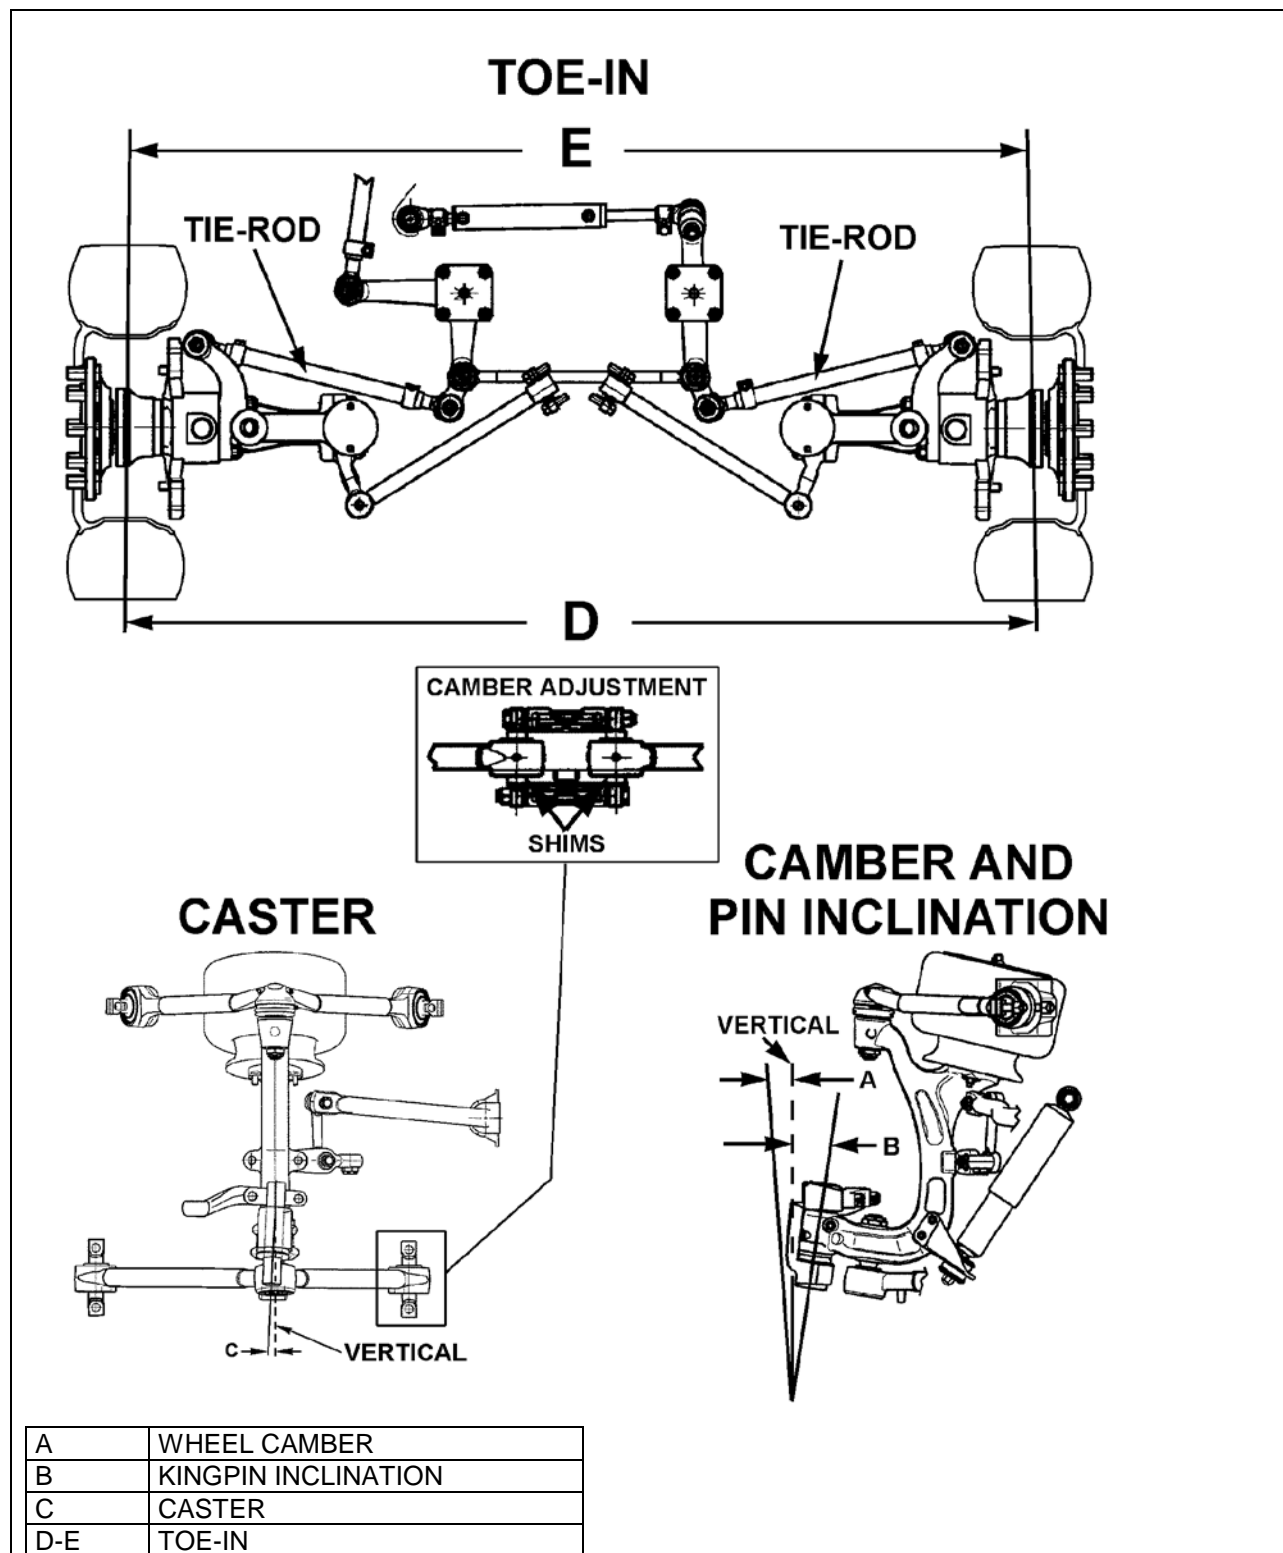

FIGURE 26: FRONT END ALIGNMENT DIAGRAM
**Wheel Camber:** Camber is the number of degrees the top of the wheel is tilted inward or outward from a true vertical (Figure 26).
**Wheel Toe-In:** a slight forward convergence given to the wheels of motor vehicles to improve steering and equalize tire wear (D minus E, Figure 26).
**Kingpin Inclination:** The inclination of the kingpin from vertical toward the center of the vehicle at the top and outward at the bottom (B, Figure 26).
**Front Axle Caster:** The inclination of the kingpin from vertical in the fore and aft direction (C, Figure 26).
- Using a pipe wrench, turn the tie rod tubes to obtain the toe-in measurement specified in step 5 under paragraph "Toe-in Check" (Figure 26).
Caster variations may be caused by bent upper suspension A-arm, lower suspension A-arm, or kingpin housing. Caster should be adjusted with shims. Precision instruments should be used to measure caster. Shim bell crank and idler arm to adjust caster (Figure 26).
See FIGURE 25 & Figure 26.